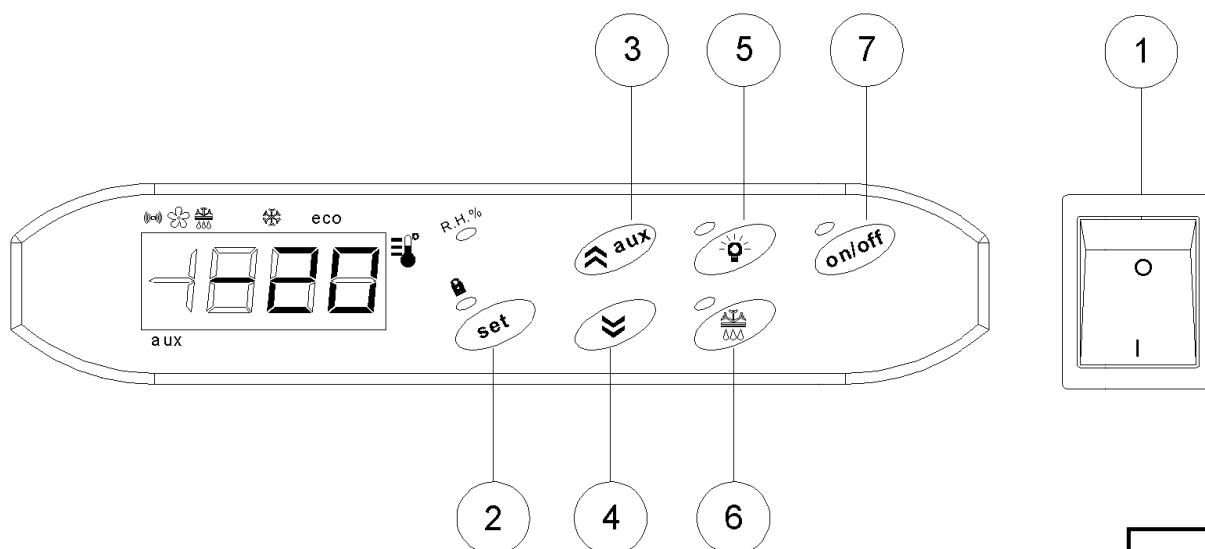

Fig. 4
Energize the system by acting on the compressor switch ① shown in FIG. 4.